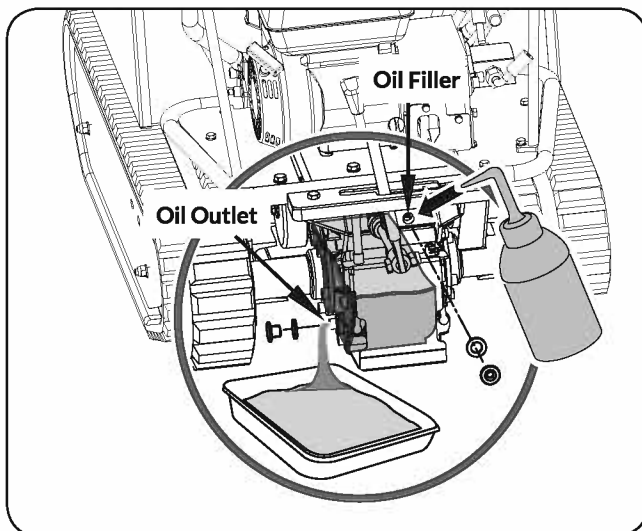

Figure 8
- » Transmission oil must be replaced when engine is stopped and warm by unscrewing filler cap and drain plug. When oil is completely drained, replace filler cap and fill up with fresh oil. (See **Figure 8**)